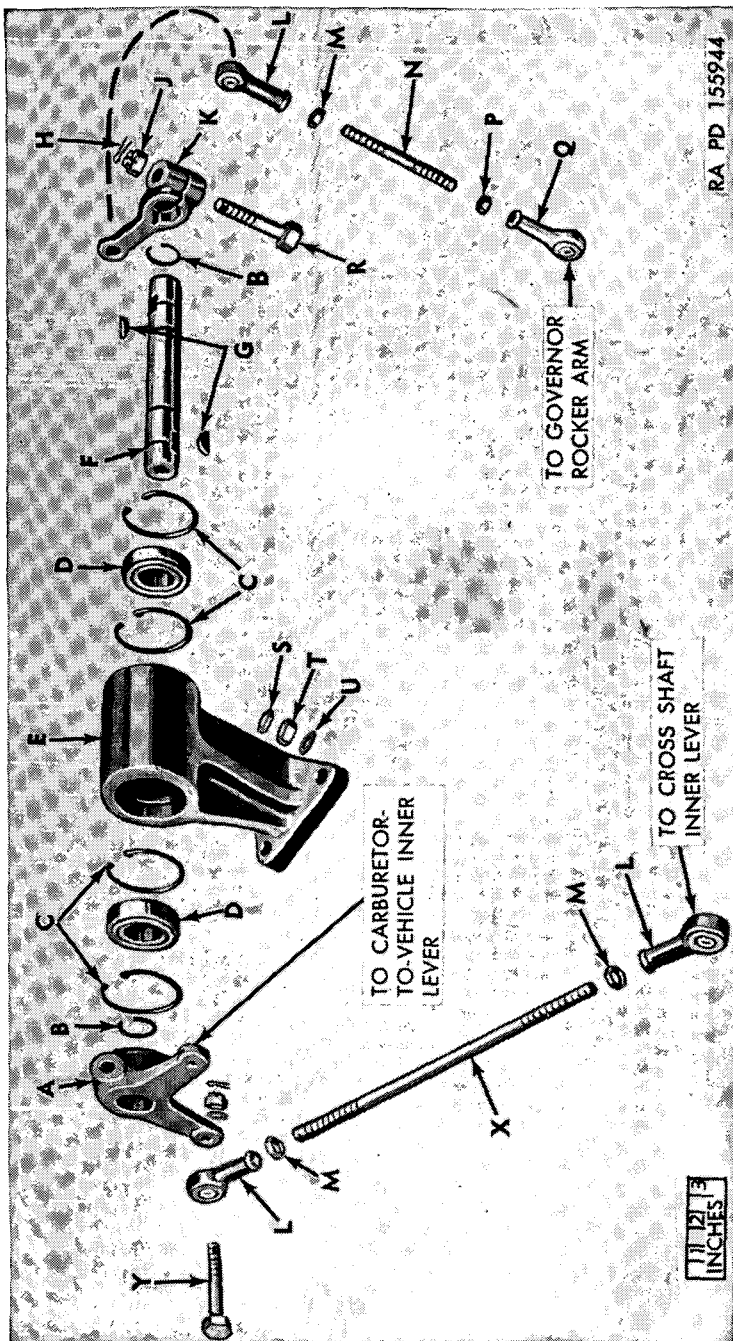

Figure 74. Throttle Linkage—governor linkage—exploded view.
- (4) Remove internal snap rings (L) and ball bearing (R) from the left cross shaft support bracket (M). If necessary, use a soft hammer to tap the bearing out.
- (5) In a similar manner remove lever, key, bracket, and bearing from the other end of the shaft.
- (6) Remove the remaining cross shaft inner lever and bracket by the same method as (2) and (4) above.
- e. Disassembly of Governor Linkage (fig. 74).*
- (1) Remove the cross shaft-to-control shaft rod (X) from the control-shaft-to-vehicle lever (A). Remove the right- and left-hand thread control-shaft-to-governor rod (N, fig. 74) from the control-shaft-to-governor lever (K) as outlined in *d*(1) above.
- (2) Remove the control-shaft-to-governor lever (K) from the governor control shaft (F) by removing cotter pin, slotted nut and bolt holding it to the shaft. If necessary, use a soft hammer to remove lever from the shaft. Remove Woodruff key (G) from the control shaft.
- (3) Remove external snap ring (B) from the control shaft. Using a soft hammer, tap the end of the shaft and the governor control-shaft-to-vehicle lever (A) from the control shaft support bracket (E).
- (4) Remove the outer internal snap rings (C) from the control shaft support bracket and remove ball bearings (D).